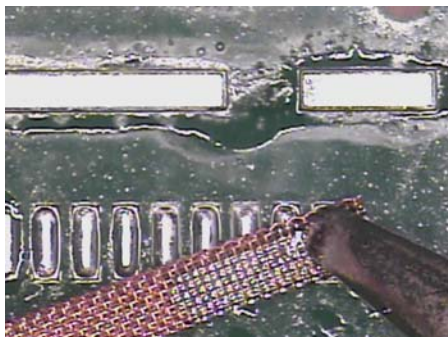

Figure 2
- The board must then be cleaned and the pads leveled with a solder wick mesh to make sure the pads are an even height and no bumps or raised areas remain. (See Figure 2).